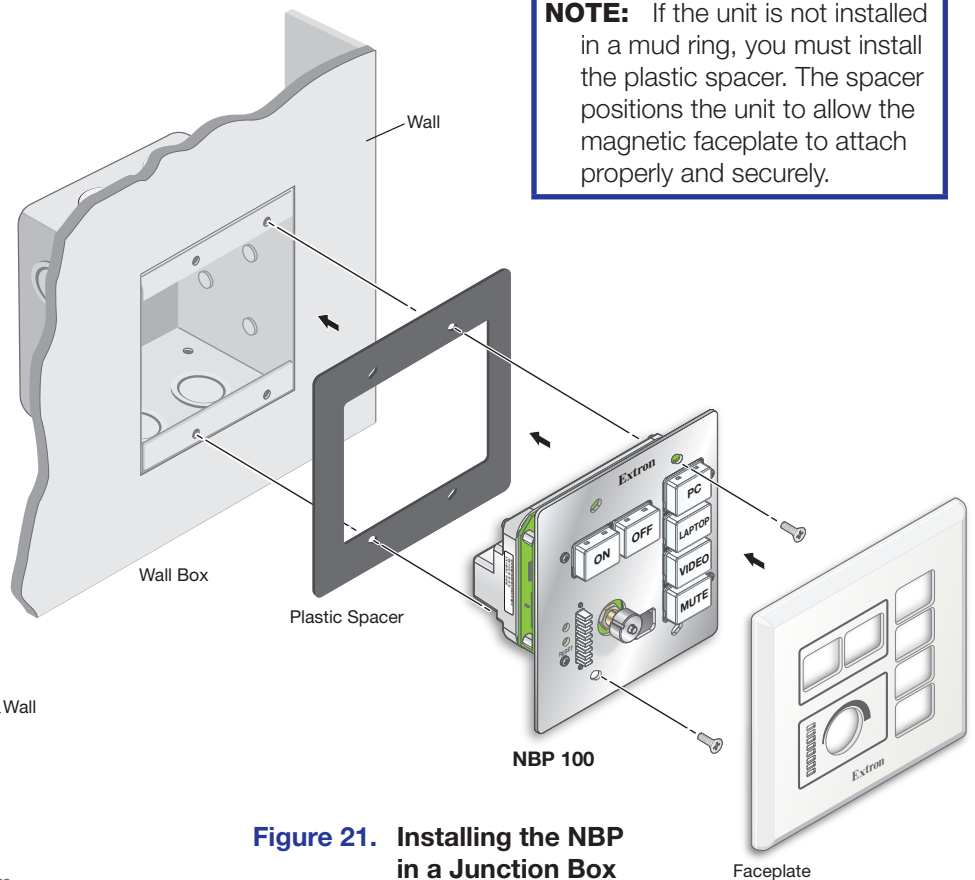
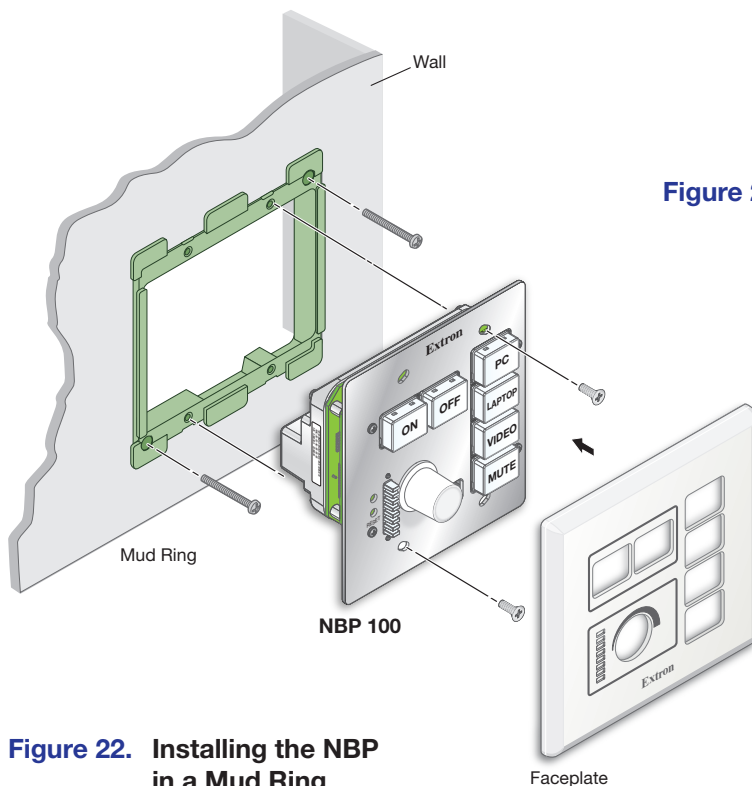

Figure 21. Installing the NBP in a Junction Box
Figure 22. Installing the NBP in a Mud Ring
For US gang models (NBP 100 and NBP 200): Insert the included screws through the mounting holes at the top and bottom of the unit, through the plastic spacer (if not using a mud ring), and into the corresponding threaded holes in the box or mud ring (see figure 21 and figure 22).
- **For US gang models (NBP 100 and NBP 200):** Align the faceplate openings with the buttons, knob, and LEDs, and place the faceplate against the unit (see figure 21 and figure 22 on the previous page). The magnetic catches fasten the faceplate onto the front of the unit.